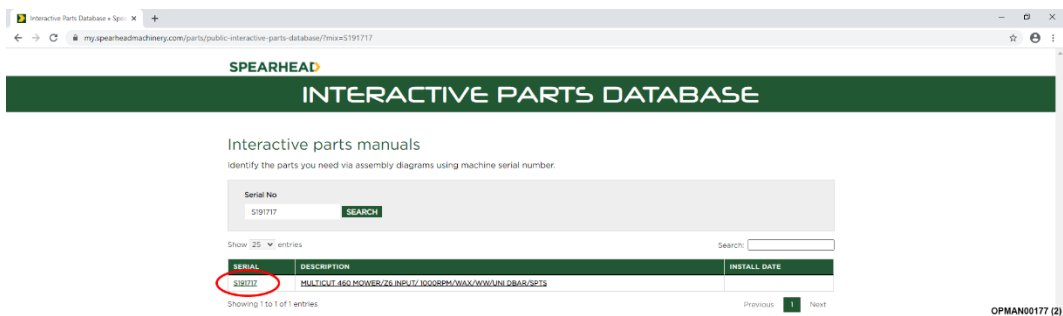

Figure 14 – Click On Serial Number
7.1.1.2 After entering the serial number a specification for the machine will appear. Click on the serial number; see Figure 14.